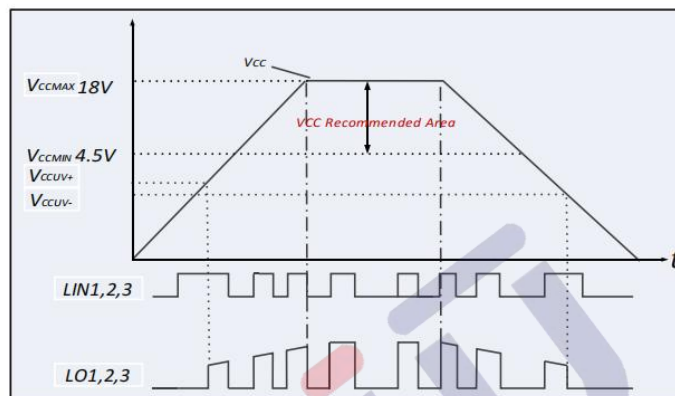

Figure. 1 VCC supply UVLO operating area
VCC is the low side supply and it provides power to both input logic and low side output power stage. The built-in under-voltage lockout circuit enables the device to operate at sufficient power when a typical VCC supply voltage higher than V_{CCUV+} is present, shown as Figure. 1. The U5316CT(CQ) shuts down all the gate driver outputs, when the VCC supply voltage is below V_{CCUV-} , shown as Figure. 1. This prevents the external power devices against extremely low gate voltage levels during on-state which may result in excessive power dissipation.